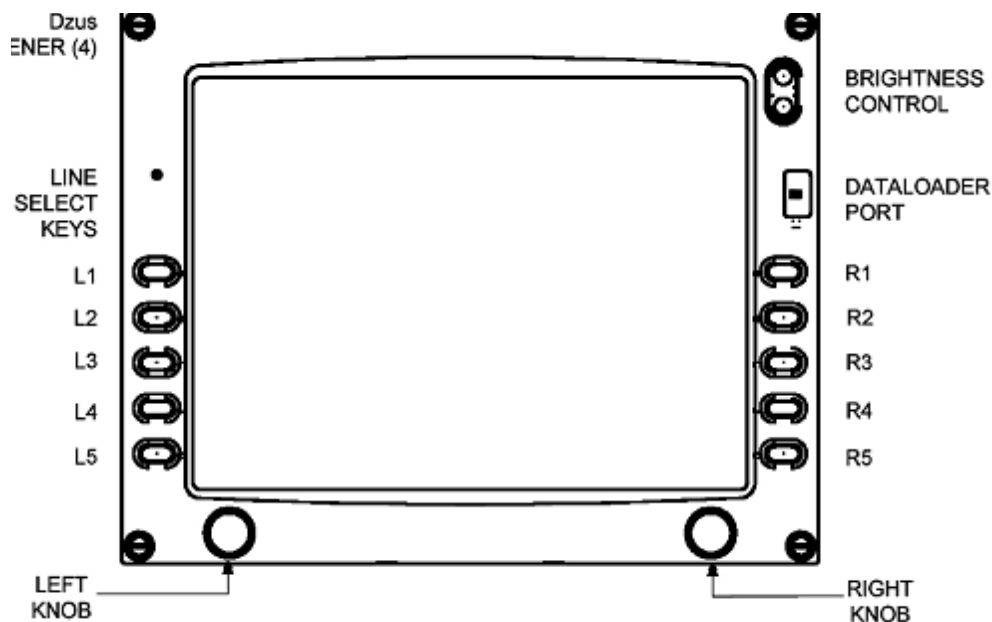

Figure 6: EX5000 Landscape Front View
4. Simultaneously press and hold buttons L1 (top left) and L3 (3rd down on the left) (Figure 6: EX5000 Landscape Front View) for at least 5 seconds.